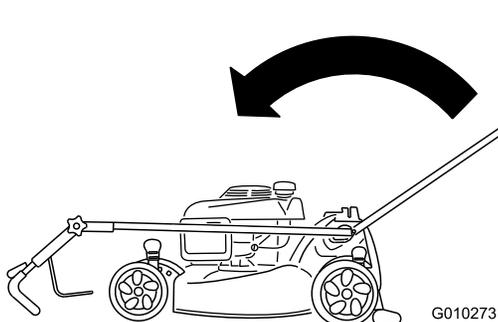

**Figure 50**
2. Move the handle to the upright position (Figure 50).